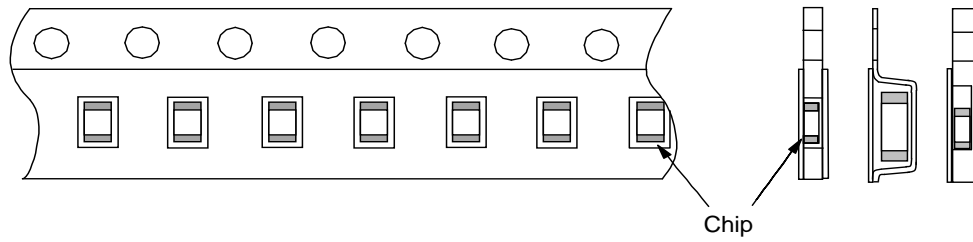

Fig.2 Dimensions of Reel
| | |  <p>Fig. 1</p> <p style="text-align: center;">$t : 1.6\text{mm}$</p> | <p>Solder the capacitor on the test substrate(glass epoxy board) shown in Fig1.</p> <p>Then apply a force in the direction shown in Fig 2 for 60s.</p> <p>The soldering should be done by the reflow method and should be conducted with care so that the soldering is uniform and free of defects such as heat shock.</p> <table border="1" data-bbox="949 481 1372 560"> <thead> <tr> <th>Type</th> <th>a</th> <th>b</th> <th>c</th> </tr> </thead> <tbody> <tr> <td>GCD18</td> <td>0.6</td> <td>2.2</td> <td>0.9</td> </tr> <tr> <td>GCD21</td> <td>0.8</td> <td>3.0</td> <td>1.3</td> </tr> </tbody> </table>  <p>Fig. 2</p> | Type | a | b | c | GCD18 | 0.6 | 2.2 | 0.9 | GCD21 | 0.8 | 3.0 | 1.3 |
1.11 Reel is made by resin and appearance and dimension is shown in Fig 2.